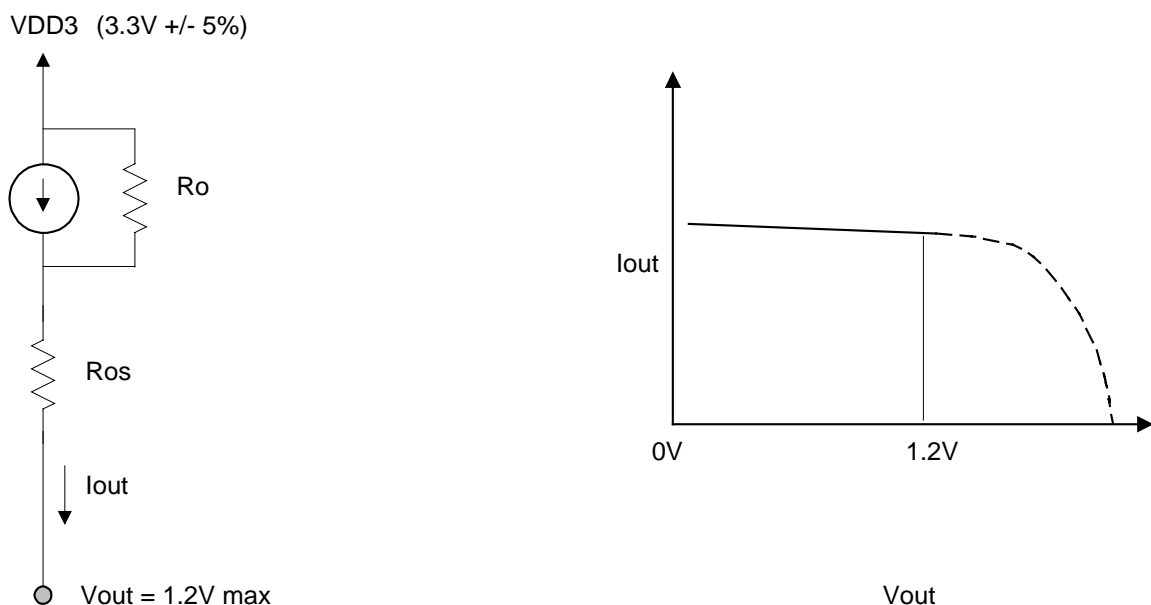

Figure 3
1. Output impedance of the current mode buffer circuit - R_o (see Figure 3).
2. Minimum and maximum required voltage operation range of the circuit – V_{op} (see Figure 3).
3. Series resistance in the buffer circuit – R_{os} (see Figure 3).